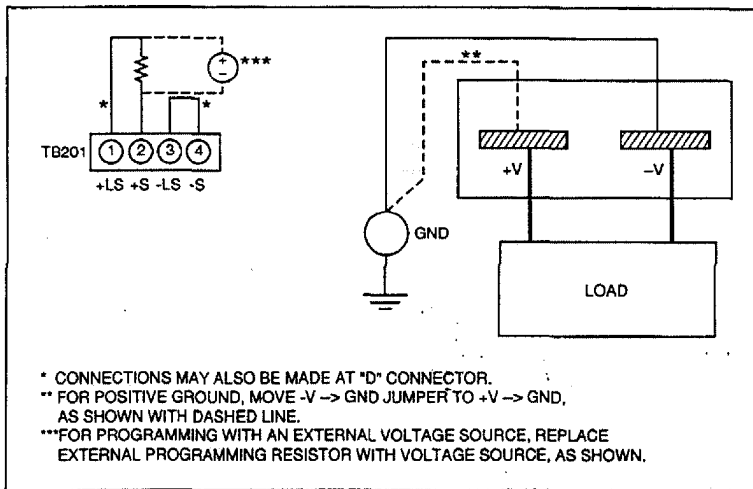

FIGURE 4: REMOTE VOLTAGE CONTROL WITH AN EXTERNAL PROGRAMMING RESISTOR OR VOLTAGE SOURCE (LOCAL SENSING)
| Remote Voltage Programming via external resistor,       | 1000 ohms per volt for resistor connected between pins 1 and 2 on TB201 (see Figs. 4 and 5).   |
| Remote Voltage Programming via external voltage source, | Volt per volt for voltage source connected between pins 1 and 2 on TB201 (see Figs. 4 and 5).  |
2. With the power supply unloaded, set  $V_o$  to the OV threshold desired. This may require remote programming (see Figs. 4 and 5).